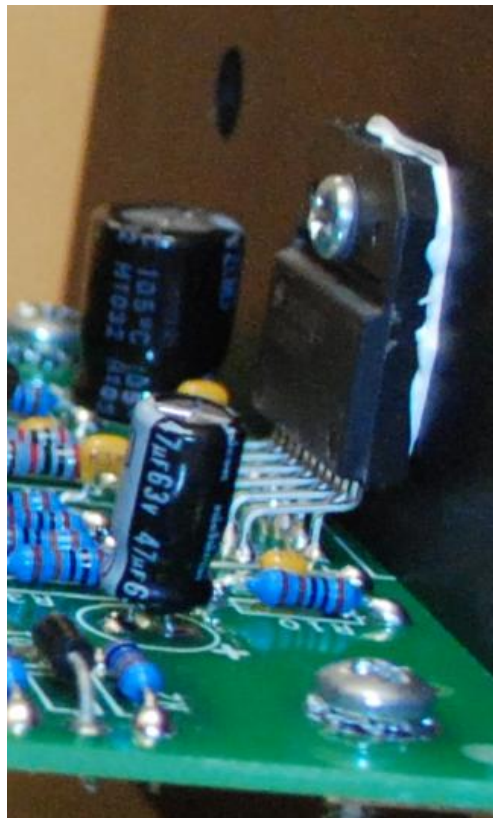

Figure 16-The LM3886 sits up off the board to avoid shorts between the front and back rows of pins. The body should be at right angles to the circuit board
6. Make sure that the LM3886 leads sit evenly above the board. There should be some daylight between the bottom row of pins and the board, and the pins should protrude evenly on the solder side (Figure 16).